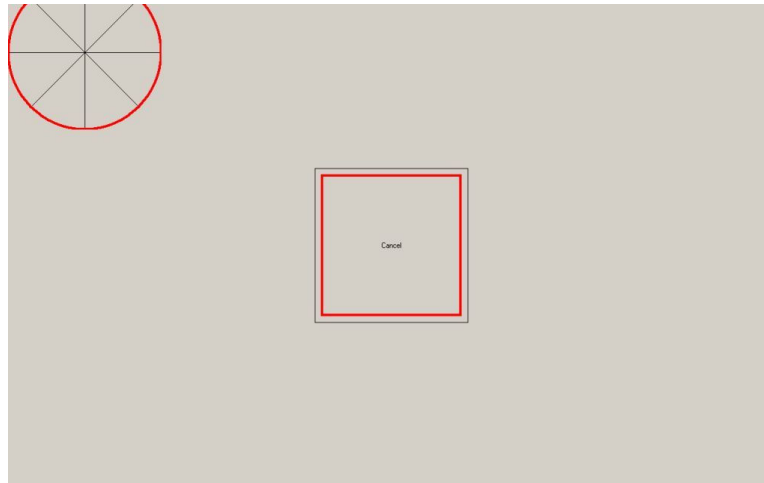

Fig 6
2. You will see the following screen (Fig 6); there are three targets to touch in total, like the one shown below: